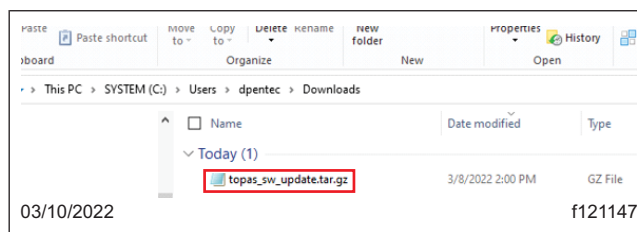

Fig. 6, Downloaded Software
6. A download box will appear in the upper right corner of the browser window. Once the download is complete, open the 'Downloads' folder and verify the downloaded file name is 'topas_sw_update.tar.gz.' See Fig. 6.